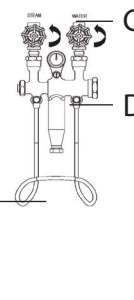

Fig. 2
- Third** With an adjustable wrench, turn hex nut 'D' in a clockwise direction until internal parts are fully extracted, as shown in Fig. 2.